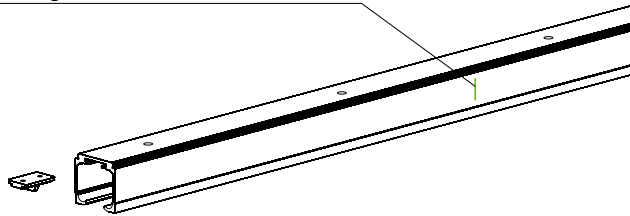

Fig. 1
❶ Mark the location for the actuator inside the top track: 265 mm from the edge of the door (Fig. 1). Install the actuator in the designated groove of the top rail.